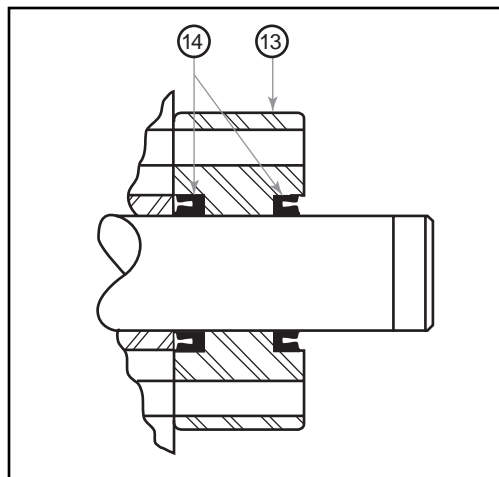
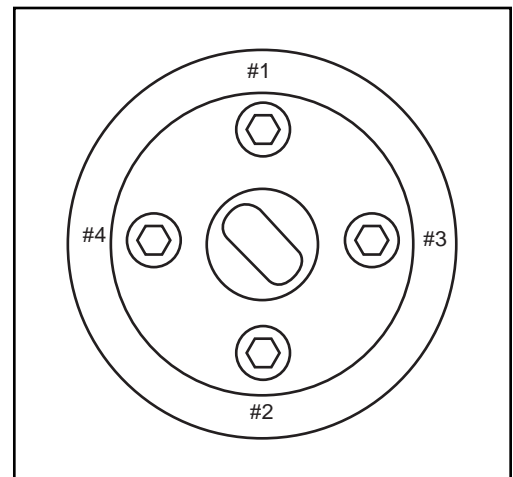

Figure 12
Figure 13
- 1) Use of a Zenith® Lip Seal Installation Guide is recommended to expand the ID of the seals prior to sliding the seals down the drive shaft preventing Lip Seal damage (P/N 15-00131-0071-2). Install Lip Seals (14) into Seal Housing (13) as shown in *Figure 12*.
- 2) Carefully lower Seal Housing (13) over Drive Shaft (5) making sure that the grease hole in the Front Side Plate (2) coincides with the grease hole in the Seal Housing (13).
- 3) Apply a thin coat of oil inside the bore of the Outer Drive Gear (1) and carefully place over Seal Housing (13).
- 4) Place Seal Plate (19) into Outer Drive Gear (1) and install Seal Housing Screws (41) finger tight.
- 5) Tighten Seal Housing Screws (41) (in order shown in *Figure 13*) to 60 lbs.-in., 50% of the full recommended tightening torque. Check for free rotation.
- 6) Tighten Seal Housing Screws (41) (in order shown in *Figure 13*) to the full recommended tightening torque of 120 lbs.-in. Check for free rotation.
- 7) Place Drive Strap (20) over Drive Shaft (5) and install Drive Strap screws (28). Tighten to full recommended tightening torque of 305 lbs.-in. Check for free rotation.
- 8) Apply standard gun grease to Grease Fitting (26). Conoco Super Lube M EP Grease or equivalent is recommended.
- 1) Place Coupling Housing (13) on Front Side Plate (2) making sure that the grease hole in the coupling housing coincides with the grease hole in the front side plate.
- 2) If the pump is equipped with an Anchor Washer (15), drop it into the Coupling Housing (13). Make sure it lies flush on the Front Side Plate (2).
- 3) Place Universal Coupling (14) with proper (shallow) female tang over Drive Shaft (5).
- 4) Apply a thin coat of oil to the inside bore of the Outer Drive Gear (1) and carefully place over Coupling Housing (13).
- 5) Place Seal Plate (19) onto Outer Drive Gear (1) and install Seal Plate Screws (41) finger tight.
- 6) Tighten Seal Plate Screws (41) (in order shown in *Figure 13*) to 60 lbs.-in., 50% of the full recommended tightening torque. Check for free rotation.
- 7) Tighten Seal Plate Screws (41) (in order shown in *Figure 13*) to full recommended tightening torque of 120 lbs.-in. Check for free rotation.
- 8) Install the Drive Strap (20) over the tang on the Outer Drive Shaft (11) and fasten to the Outer Drive Gear (1) with Drive Strap Screws (28). Torque to 305 lbs.-in.
- 9) Apply standard gun grease to Grease Fitting (26). Conoco Super Lube M EP Grease or equivalent is recommended.